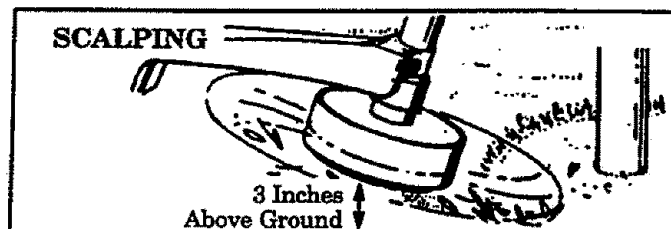

Figure 10
2. **SCALPING** – FIGURE 10 . The scalping technique removes unwanted vegetation. Hold the bottom of the trimmer head about 3 inches above the ground and at an angle. Allow the tip of the line to strike the ground around trees, posts, monuments, etc. *This technique increases line wear.*